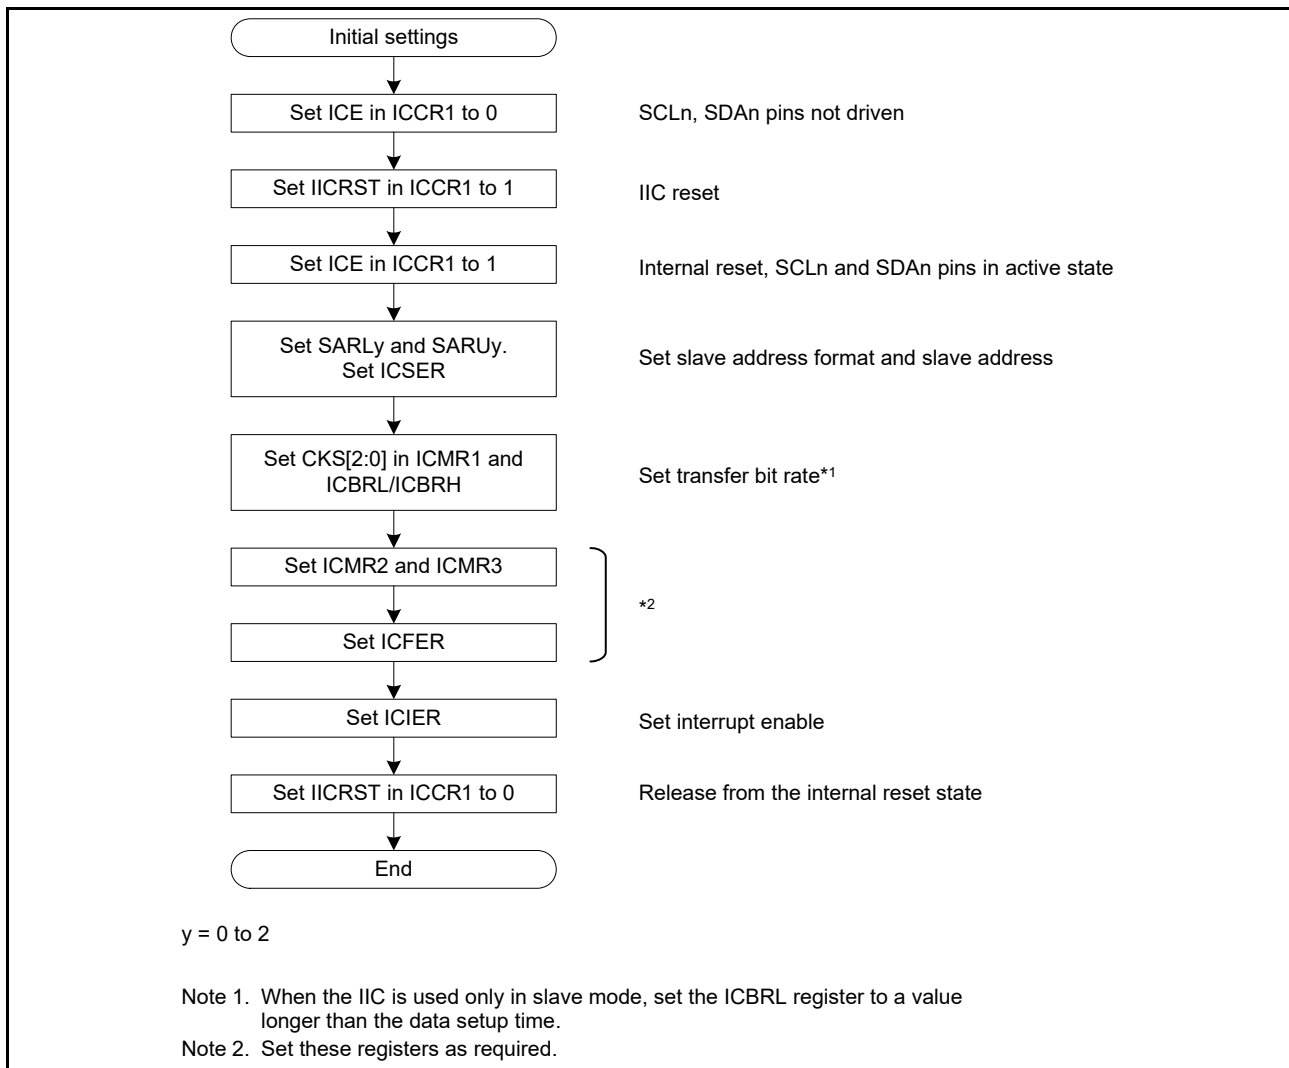

Figure 29.5 Example IIC initialization flow
Before starting data transmission or reception, initialize the IIC using the procedure shown in Figure 29.5.
4. Set the SARLy, SARUy, ICSEr, ICMR1, ICBRH, and ICBRL registers (y = 0 to 2), and set the other registers as required. For initial IIC settings, see Figure 29.5.